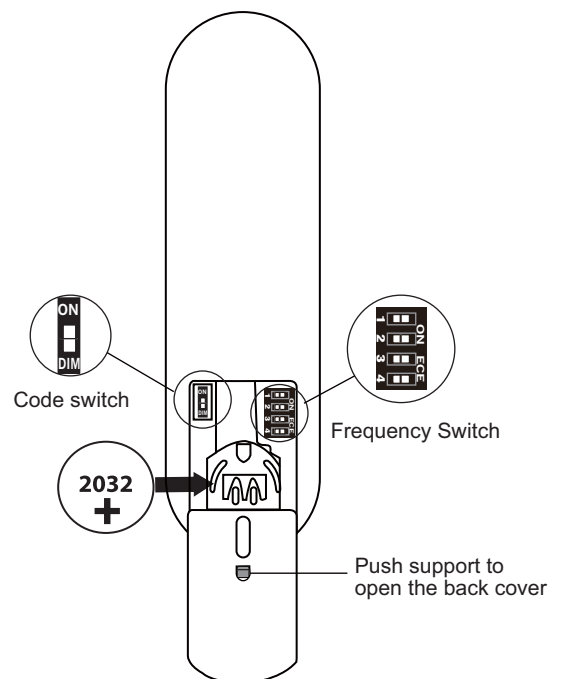

Figure 13
Insert the 3 volt battery (included) and make sure the battery is properly seated with the Positive + sign facing up. (Fig. 13)
The remote control unit has frequency settings that can be changed. The frequency settings on the remote control should only be changed if your fan experiences interference or if a second or more fans with the same type of control system are installed in the same structure. (Fig. 13)
**ON/DIM Switch:** The ON position is to be used for a light kit with CFL bulbs, the DIM position is to be used for all other dimmable style bulbs. (Fig. 13)